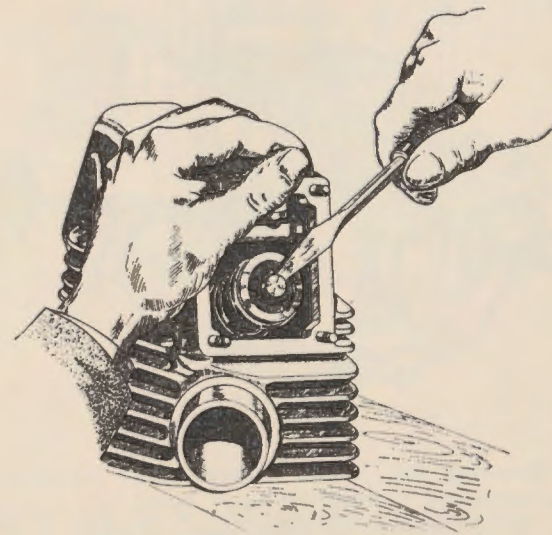
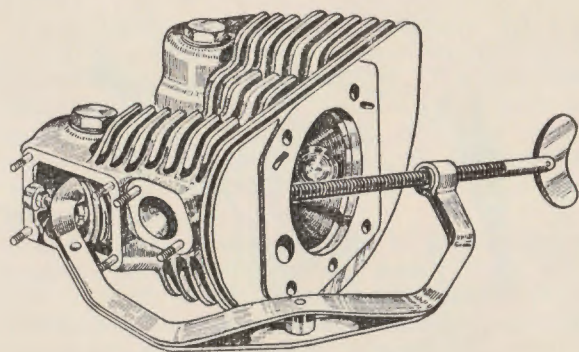

Fig. 10.
Fig. 11.
- 26 **Removal of Valves.** Remove the rocker covers, each held by four nuts, swing the rocker clear of the valve and lift or prise away the hardened steel thimbles or end caps. If these have stuck, they can be removed by means of a screwdriver (Fig. 10). Using a suitable valve spring compressing tool (Fig. 11), compress the valve springs and remove the split conical collars from the end of the valve stem. Slacken back the compressor and release the spring; withdraw the valve and place its springs, top spring collar (and bottom collar if it is loose) and split conical collars together in order that they may be assembled with the valve from which they were removed. Deal similarly with the other valve in the head.